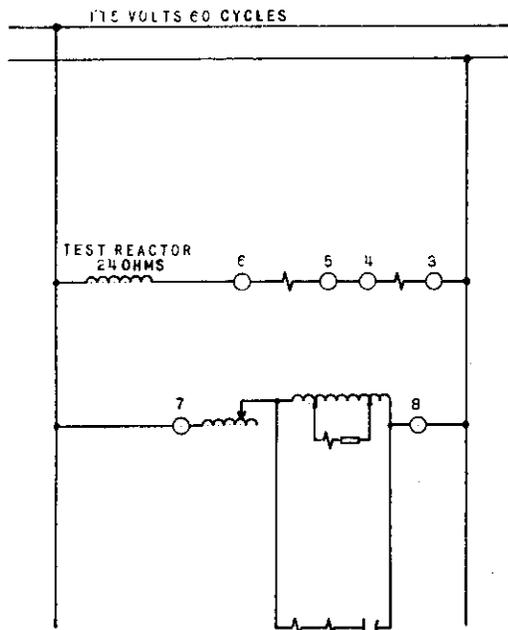

Fig. 7 Characteristics of Type CEH11A Relay
3. Draw relay characteristic on polar paper with center at 90 degrees lead using distance from origin and diameter calculated above. (See Fig. 7).